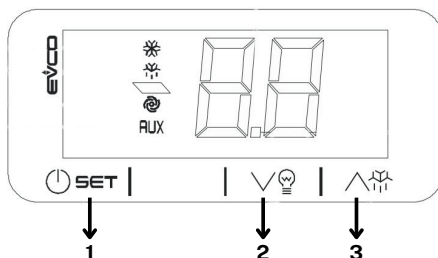

Figure 37
25.1.3. Press the "SET" button, which is indicated by number 1 in Figure 37.
25.1.5. To decrease the temperature, use the button indicated by number 2 in Figure 37; to increase the temperature, use the button indicated by number 3 in Figure 37.